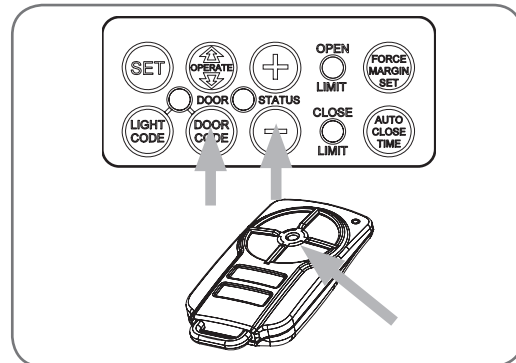

fig 35
- Briefly press the DOOR CODE button three times, then press it again and hold (will beep four times on fourth press (**Fig.35**)).
- Press one of the four buttons on the transmitter for two (2) seconds, pause for two (2) seconds, then press the same button again for two (2) seconds.
- Briefly press the DOOR CODE button once, then press it again and hold (will beep two times on second press (**Fig.35**)).
- Press one of the four buttons on the transmitter for two (2) seconds, pause for two (2) seconds, then two (2) seconds, pause for two (2) seconds, then press the same button again for two (2) seconds.
- To test, press and hold the transmitter button for seven (7) seconds to set Vacation Mode.
- Briefly press the DOOR CODE button two times, then press it again and hold (will beep three times on third press (**Fig.35**)).
- Press one of the four buttons on the transmitter for two (2) seconds, pause for two seconds, then press the same button again for two (2) second.